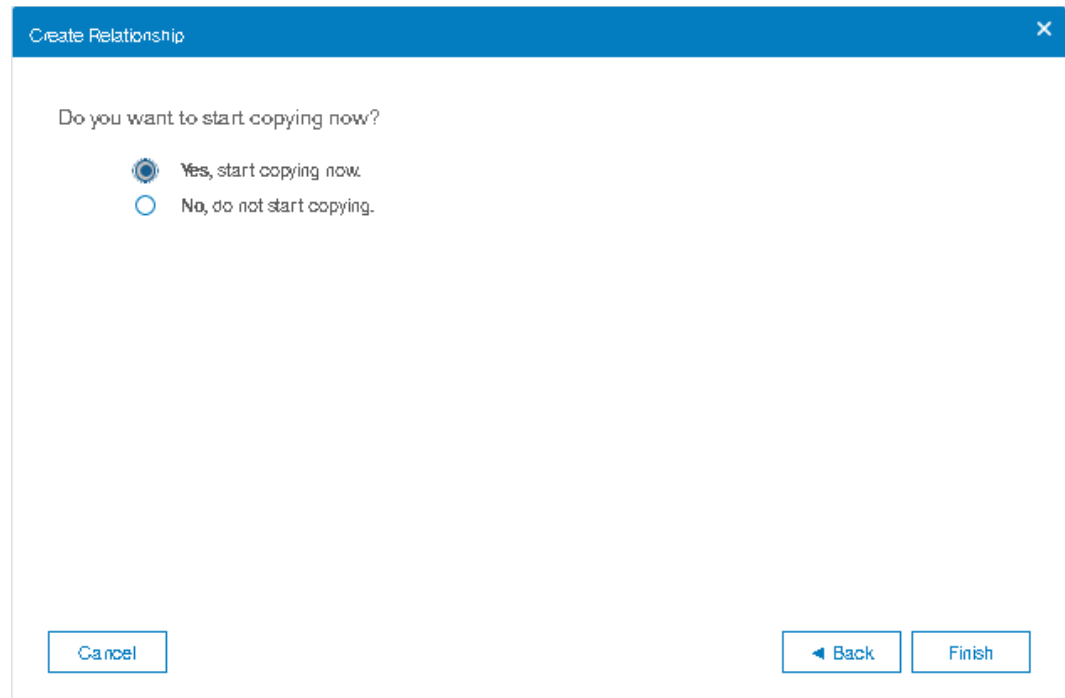

Figure 10-109 Synchronize now
11. In the next window, select whether you want to start to copy the data and click **Finish**, as shown in Figure 10-109.